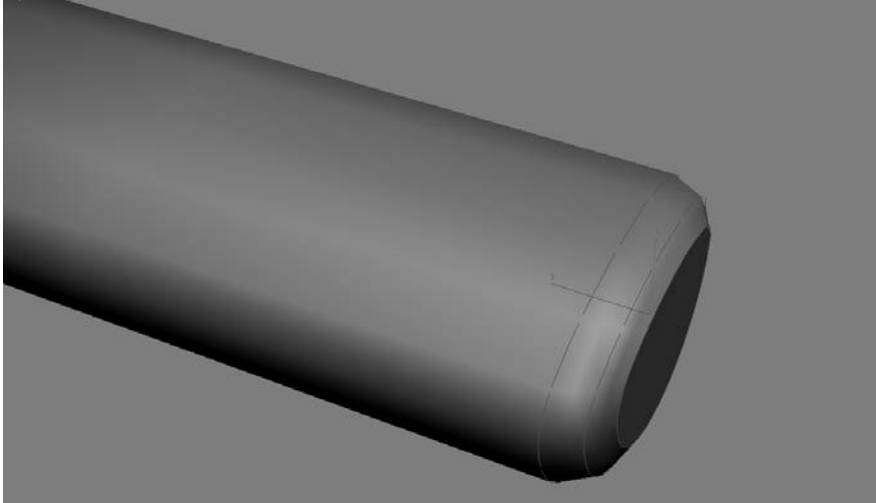

Figure 5.111
4. In the dialog box, choose Copy. Make three copies and place them close to the end of the handle, as shown in Figure 5.111. Switch to the Scale tool, and scale the outside shape down 30 percent and the middle shape down 10 percent. Leave the last inside shape alone, which should create a nice curved taper at the end of the handlebar.